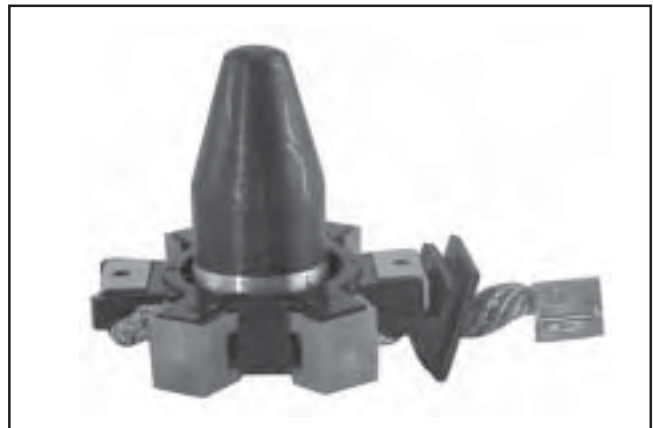

**Figure 8-67. Installing Brush Holder Assembly with Supplied Tube.**
- a. Hold the starter assembly vertically on the end housing, and carefully position the assembled brush holder assembly, with the supplied protective tube, against the end of the commutator/armature. The mounting screw holes in the metal clips must be "up/out." Slide the brush holder assembly down into place around the commutator, and install the positive (+) brush lead grommet in the cutout of the frame. See Figure 8-67. The protective tube may be saved and used for future servicing.